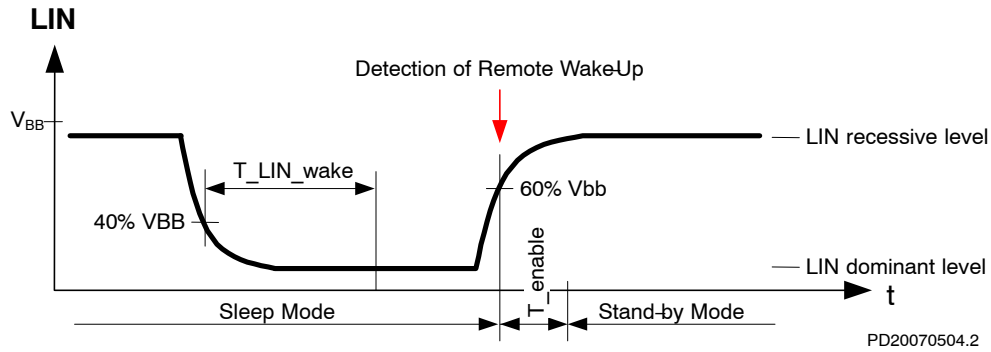

Figure 5. Remote (LIN) Wakeup Detection
- Remote (or LIN) wakeup – when LIN bus is externally driven dominant during longer than  $T_{LIN\_wake}$  and a rising edge on LIN occurs afterwards – see Figure 5.